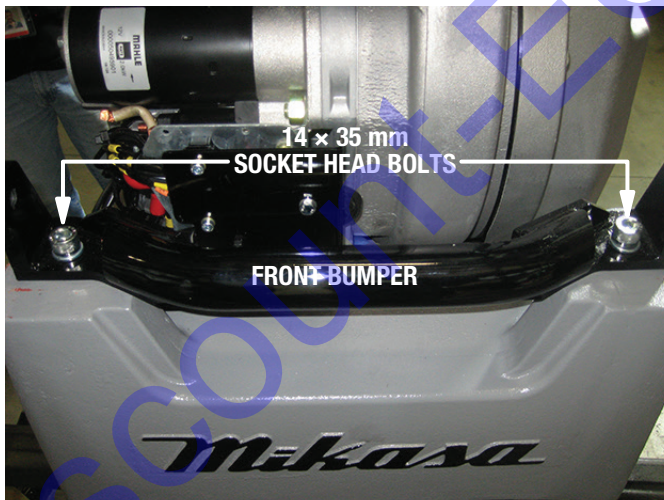

Figure 19. Front Bumper Removal (MVH508DZ)
- Remove and set aside the two 14 × 35 mm socket head bolts securing the front bumper to the compactor (Figure 19). Remove the front bumper and set it aside.